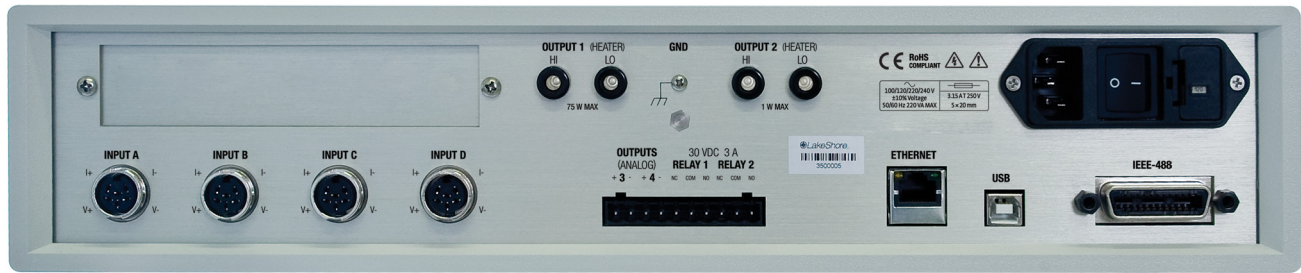

FIGURE 3-1 Model 350 rear panel
This section provides a description of the Model 350 rear panel connections. The rear panel consists of the Input A, B, C, and D sensor input connectors (#1 in FIGURE 3-1), Output 3 and 4 analog voltage output and relays 1 and 2 terminal block connector (2), RJ-45 Ethernet connector (3), USB B-type connector (4), IEEE-488 interface connector (5), line input assembly (6), Output 1 and 2 heater output connectors (7 and 8), and the thermocouple option card inputs (9). Refer to section 8.10 for rear panel connector pin-out details.